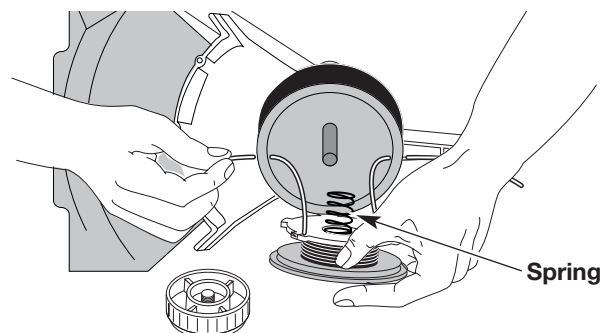

Fig. 39
- Insert the ends of the line through the eyelets in the outer spool and place inner reel with spring inside the outer spool (Fig. 39). Push the inner reel and outer spool together. While holding the inner reel and outer spool, grasp the ends and pull firmly to release the line from the holding slots in the reel.
5. Insert the ends of the line through the eyelets in the outer spool (Fig. 39).